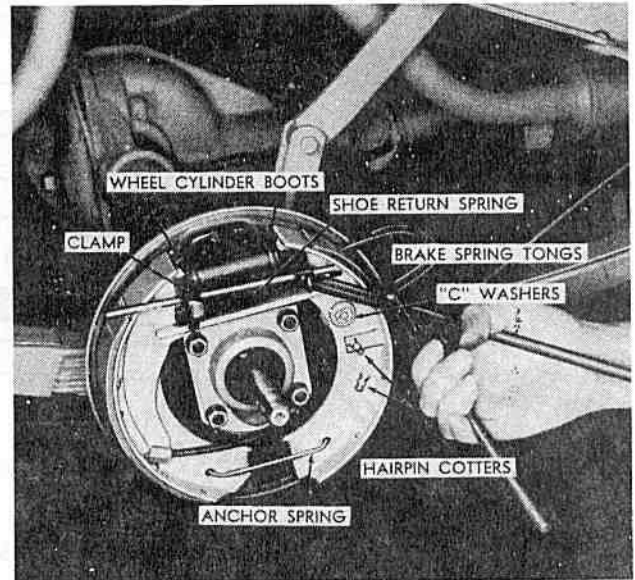

FIG. 49
**CHAMPION AND COMMANDER** To remove the front wheel brake shoes, place a clamp across the wheel cylinder boots. Remove the anchor spring, the shoe return spring, and the C-washers from the brake shoe eccentric pins. Each shoe is removed by pulling the heel of the shoe away from the anchor block, lifting it from the backing plate until it is clear of the eccentric pin, and then pulling it away from the wheel cylinder. (See Fig. 49.)
To remove the rear wheel brake shoes, place a clamp across the wheel cylinder boots. Remove the anchor spring and the shoe return spring, pull the parking lever toward the center of the brake, and unhook the cable. Then remove the C-washers from the brake shoe eccentric pins and remove each shoe in the same manner as followed for the front wheel brakes. (See Fig. 49.)